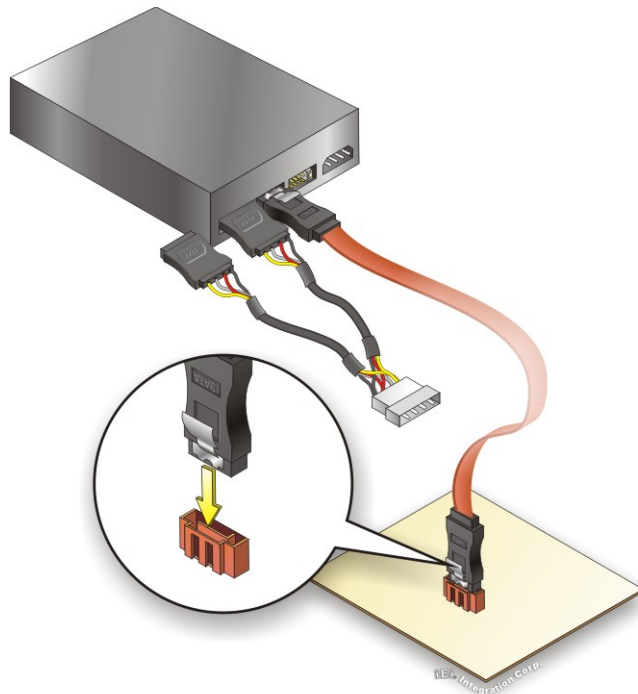

Figure 4-22: SATA Power Drive Connection
- Step 3:** **Connect the cable to the SATA disk.** Connect the connector on the other end of the cable to the connector at the back of the SATA drive. See **Figure 4-22**.
- Step 4:** **Connect the SATA power cable.** Connect the SATA power connector to the back of the SATA drive. See **Figure 4-22**.